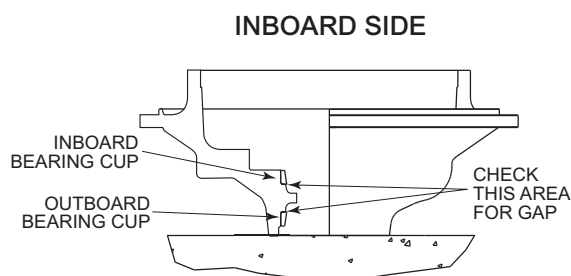

Figure 6.3.3 Installation of Inboard and Outboard Bearing Cups
3. With a 0.001" or 0.040 mm feeler gage, make sure that there is no gap between the housing and the bearing cups to insure proper cup seating; reference Figure 6.3.3.